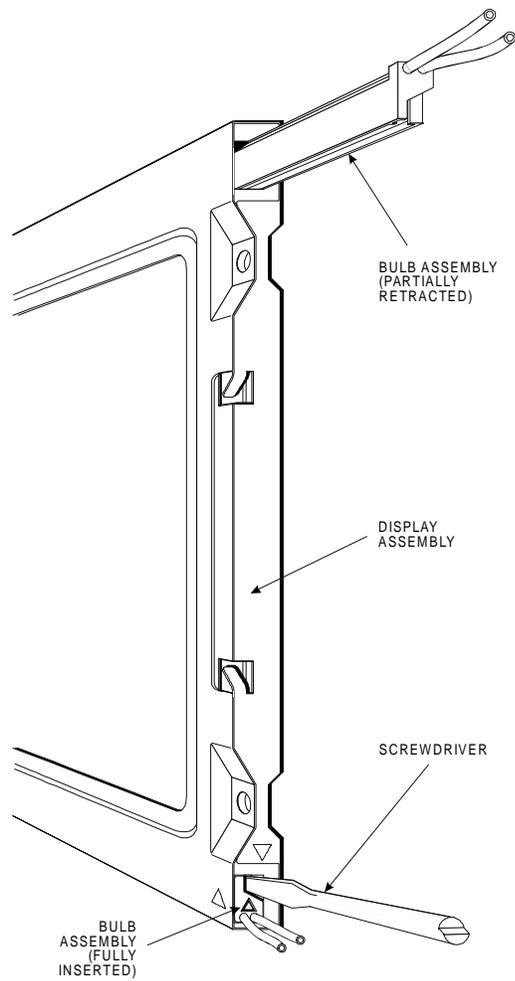

Figure D-7. Model #LQ12S41
10. Referring to Figure D-7, push in the tab at the end of the display with a flat-bladed screwdriver, and slide out the bulb assembly.